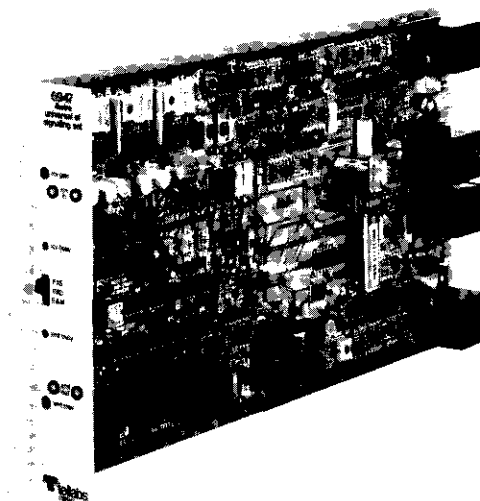

figure 1. 6947 and 6947A Universal SF Signaling modules with Gain
1.01 The Tellabs 6947 and 6947A 4Wire Universal SF Signaling Set modules with Gain (figure 1) each provide single-frequency (SF) signaling over a 4wire facility, full-duplex conversion between that SF signaling and any one of three types of terminal-side loop signaling, and extension of this loop signaling toward a 4wire termination. Specifically, the 6947 and 6947A may be switch-optional to function as a 4wire E&M, foreign-exchange office-end (FXO), or foreign-exchange station-end (FXS) signaling unit. Level control (gain and attenuation) in the transmit and receive channels is provided by means of adjustable amplifiers and attenuators. Conventional 2600Hz SF tone is standard; other frequencies are optionally available.